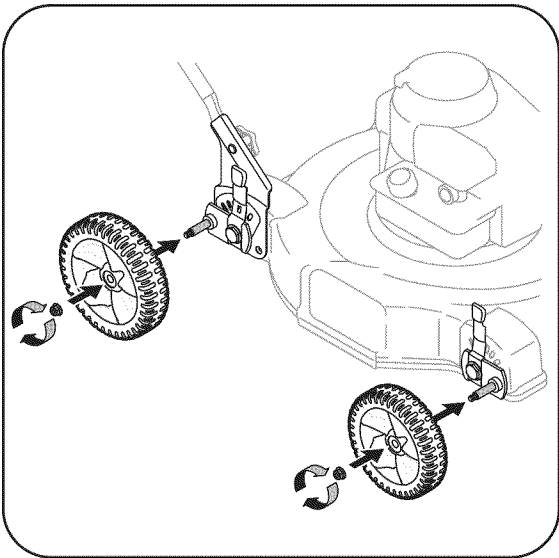

Figure 3-8: Install the wheels.
2. Place the larger two wheels on the rear pivot arm axles and secure with the flanged lock nuts. See Figure 3-8.
3. Repeat with the two smaller wheels on the front pivot arm axles. See Figure 3-8.